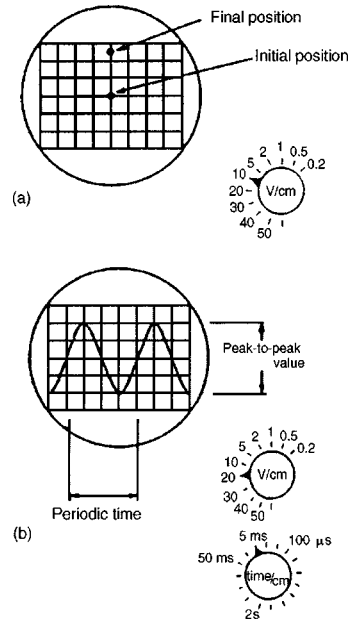

Figure 10.15
- With **direct voltage measurements**, only the Y amplifier ‘volts/cm’ switch on the oscilloscope is used. With no voltage applied to the Y plates the position of the spot trace on the screen is noted. When a direct voltage is applied to the Y plates the new position of the spot trace is an indication of the magnitude of the voltage. For example, in Fig. 10.15(a), with no voltage applied to the Y plates, the spot trace is in the centre of the screen (initial position) and then the spot trace moves 2.5 cm to the final position shown, on application of a d.c. voltage. With the ‘volts/cm’ switch on 10 volts/cm the magnitude of the direct voltage is 2.5 cm × 10 volts/cm, i.e. 25 volts.
- With **alternating voltage measurements**, let a sinusoidal waveform be displayed on an oscilloscope screen as shown in Fig. 10.15(b). If the time/cm switch is on, say, 5 ms/cm